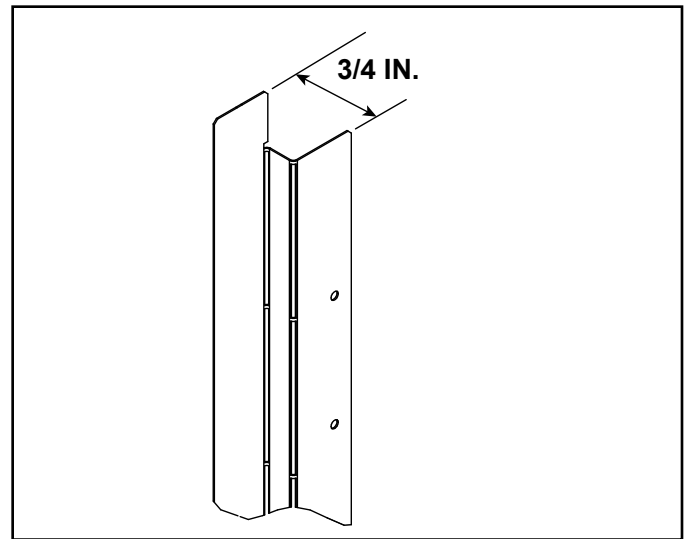

Figure 6. Bend Side Templates
6. Bend new side templates as shown in Figure 6. Attach side templates with two new 10-24 x 3/4 inch hex screws per side. See Figure 5.